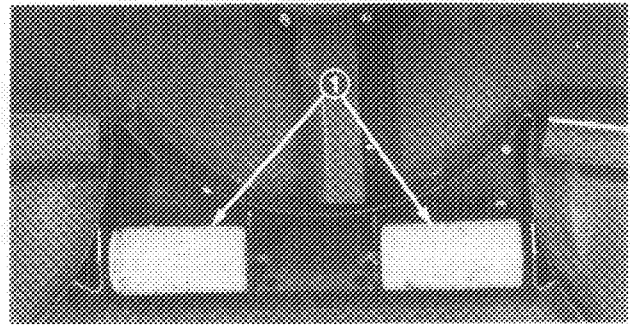

Figure 13
3. Remove cotter pins securing roller shafts to underside of deck (Fig. 13).